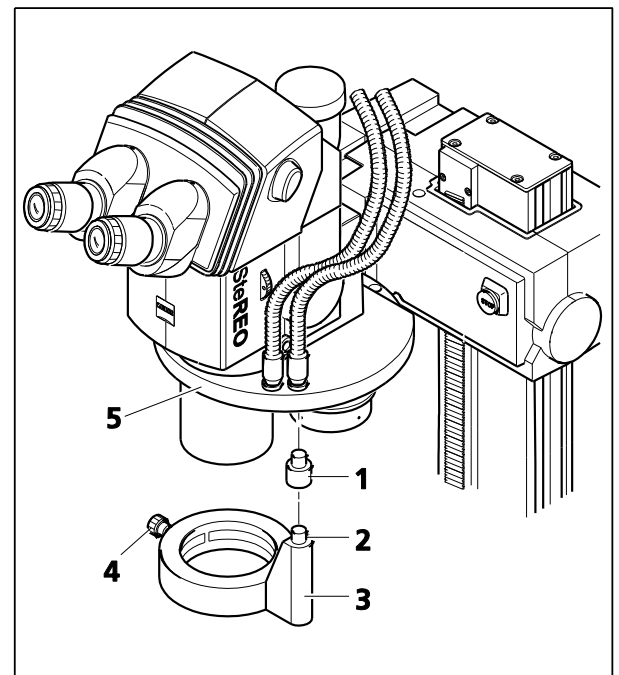

Fig. 26 Slit-ring illuminator
- Put the appropriate light-conducting rod (Fig. 26/1; 13 mm or 51 mm) onto the fiber input (Fig. 26/2) of the slit-ring illuminator (Fig. 26/3).
- Put the slit-ring illuminator from below on the corresponding objective and push it upwards until the light-conducting rod touches the mechanical stop in the corresponding hole at the underside of the objective nosepiece (Fig. 26/5).
- Fix the slit-ring illuminator with the knurled knob (Fig. 26/4) in this position.